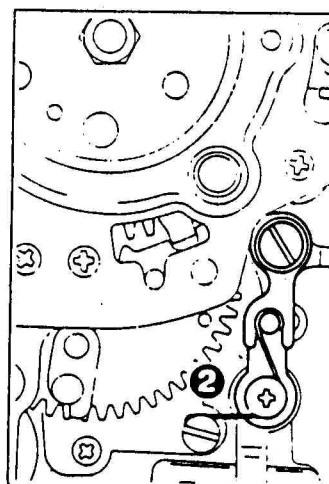

Fig. 7
A current of about 7mA will flow if connections to the battery terminals are wrong. (See Fig. 7.)
- ② If it sounds 4 seconds after releasing, the release magnet does not function. Accordingly, check function of the release magnet mechanism. (See Fig. 7.)